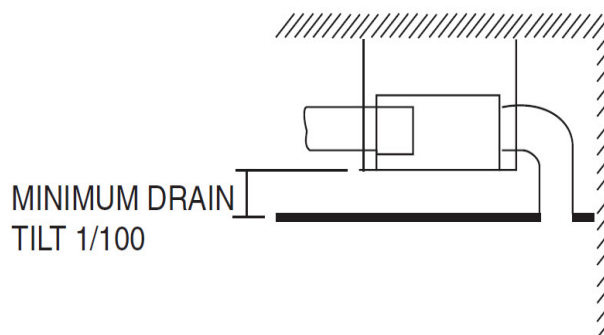

Fig. 9 —False Ceiling Installation
- There should be enough room within the false ceiling for installation and maintenance (see Fig. 9 and 10).